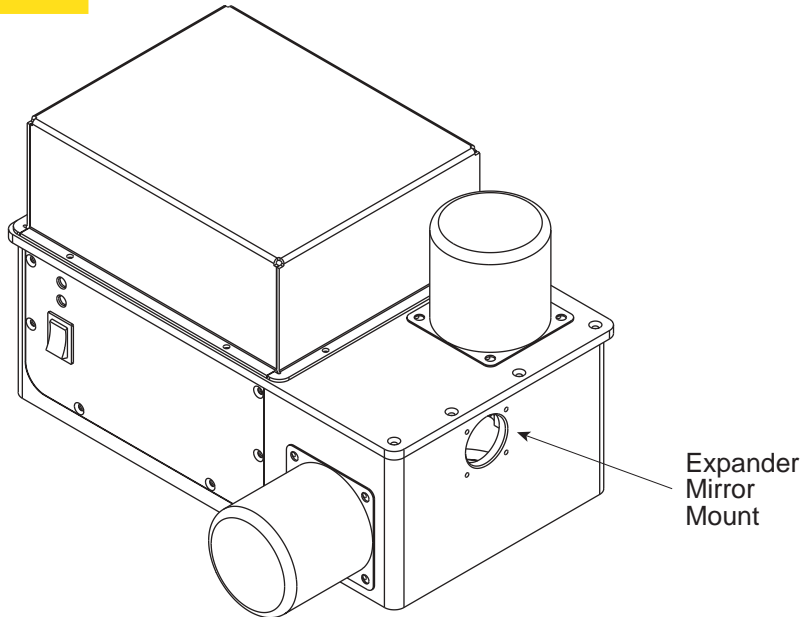

Figure 1-4 Expander Mirror Mount Location
- 2 Remove the four screws securing the *Expander Mirror Mount* to the Marking Head. Refer to Figure 1-4 for the *Expander Mirror Mount* location.
- 15 Move the beam alignment tool from the *Entrance Aperture* to the *Expander Mirror Aperture*. Refer to Figure 1-4 for the *Expander Mirror Aperture* location. Make certain the tool is seated flush against the Marking Head housing and is not cocked sideways in the bore.